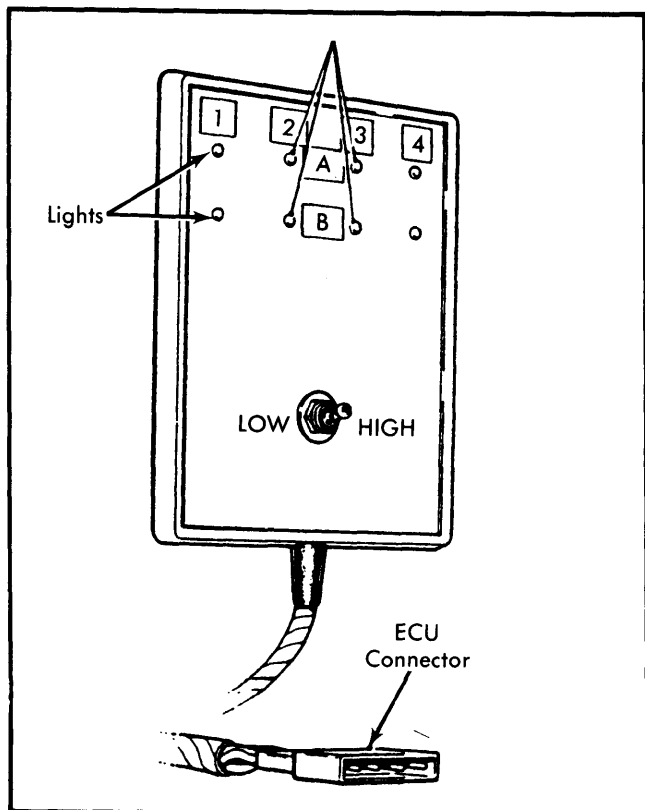

Fig. 7 Triumph Feedback Monitor
- 1) Start and run engine until normal operating temperature is obtained. If engine is already hot, run engine for 2 minutes before testing. Connect feedback monitor (60973066) to diagnostic connector in harness near ECU. Place feedback monitor switch in "LOW" position. See Fig. 7.